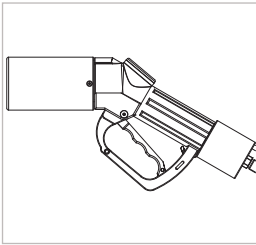

Figure 9
- ▶ Lift the fueling nozzle out of the dispenser. The actuation lever (Pos. 6) must be in the OFF position (Figure 9).